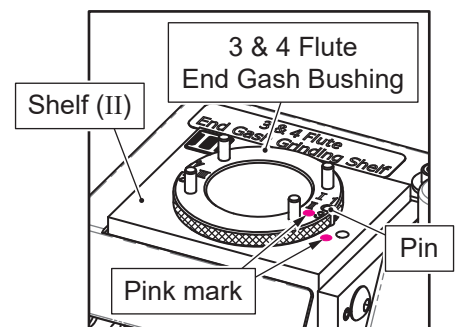

Fig. 14-2
2. End Gash Grinding Shelf (II) (Fig. 14-2)